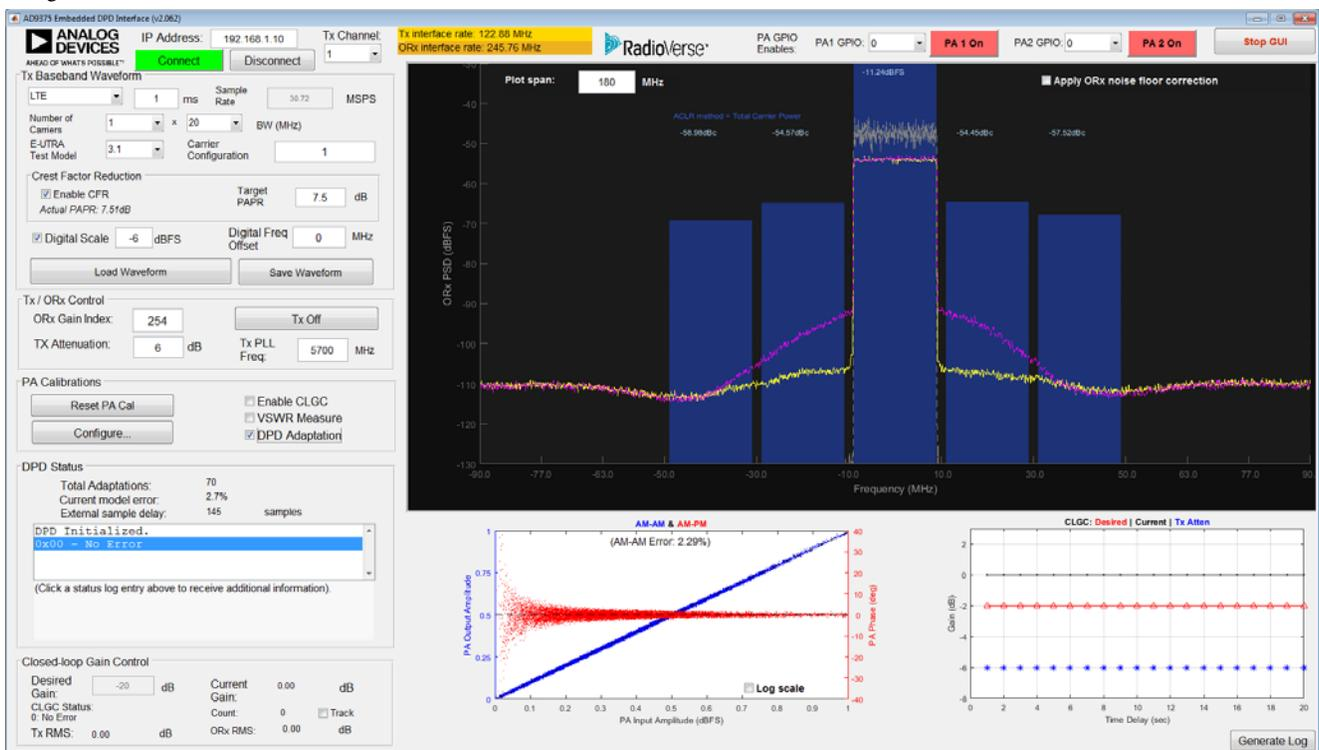
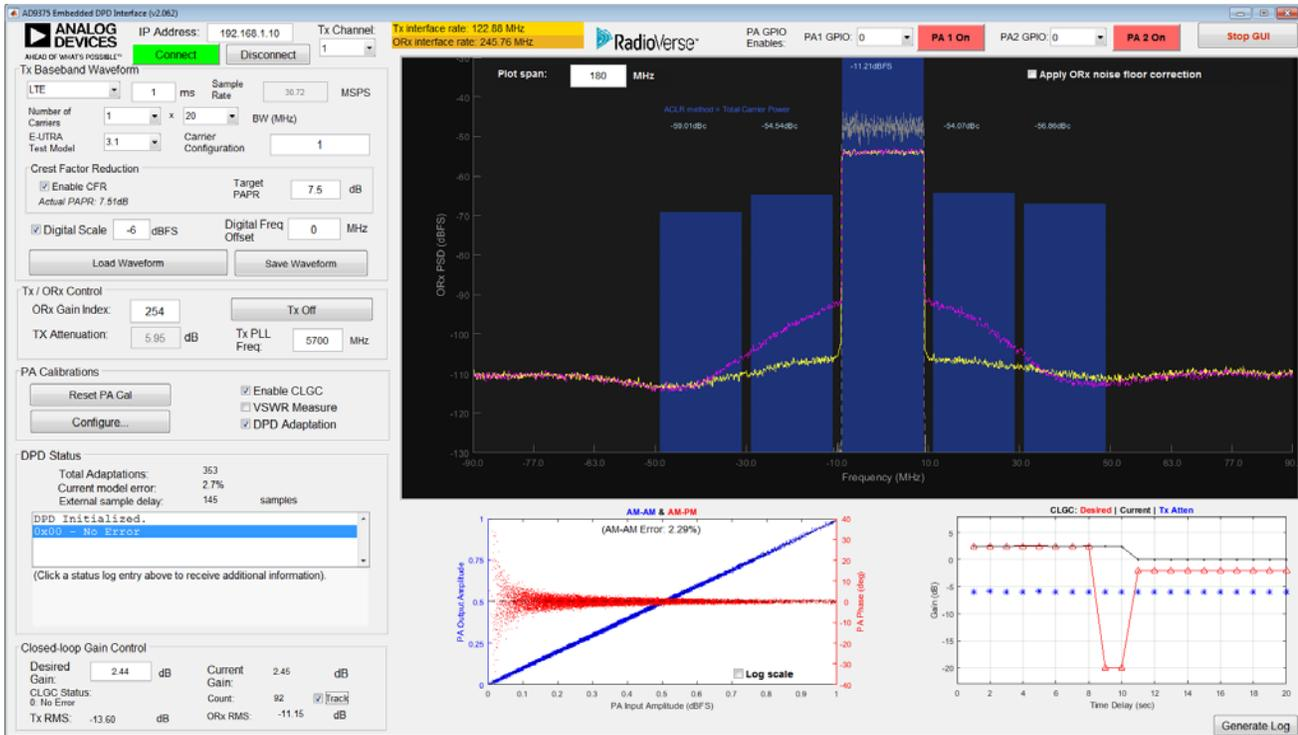

Figure 257. Typical Test Setup
Figure 258. DPD Performance with CLGC Enabled
The SKY66297-11 power amplifier (PA) is optimized for signals of no more than 20 MHz bandwidth. A waveform setup with a total bandwidth greater than 20 MHz pushes the PA out of its optimized range, and performance measures, such as the adjacent channel leakage ratio (ACLR) and error vector magnitude (EVM), may start to degrade. This degradation is due to limitations of the PA and cannot necessarily be attributed to the digital predistortion (DPD) algorithm. To see the full benefit that the AD9375 DPD solution can deliver, the PA must be tested using signals that conform to the limitations of each individual PA. As a first order test to confirm the DPD performance, recreate similar settings as shown in Figure 257 and Figure 258.
Figure 257 shows a typical setup for testing the DPD with the SKY66297-11 PA while keeping the PA within its optimized bandwidth. Note that these are the initial conditions and some configurations inputs can be changed to achieve better performance. Prior to enabling the DPD, the AM-AM plot must show compression (weak nonlinearity). If not, reduce the Tx attenuation until the PA AM-AM output starts to roll over and compress. Figure 258 shows the DPD performance with the closed-loop gain control (CLGC) enabled. The ORx Gain Index can be increased up to a point where most of the points on the AM-AM plot are close to the linear curve as possible. The ACLR achieved using this setup after enabling DPD is typically -50 dBc (or better) at a 28 dBm output power ( $P_{OUT}$ ).